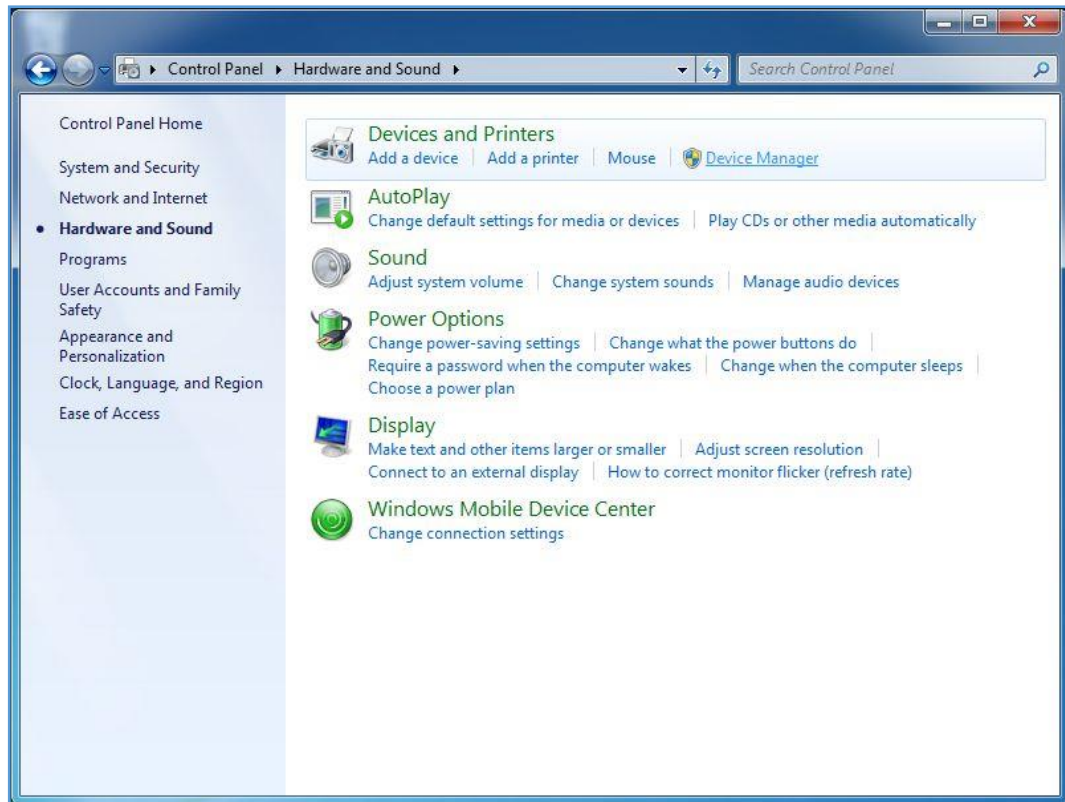

Figure A-8: Devices and Printers
- Under **Devices and Printers**, select **Device Manager** as shown in Figure A-8.